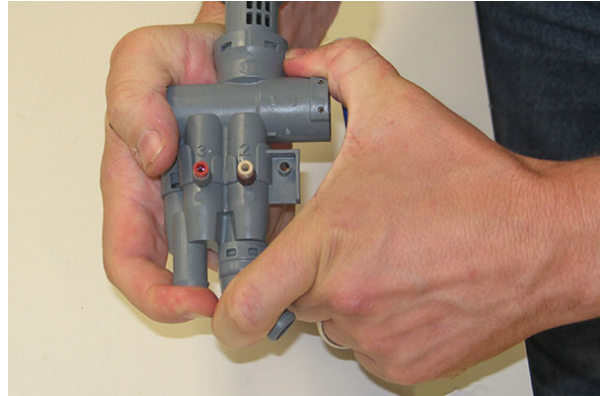

FIG. 53
16. Firmly squeeze the lower portion of the valve assembly onto the valve assembly. (Fig. 53)